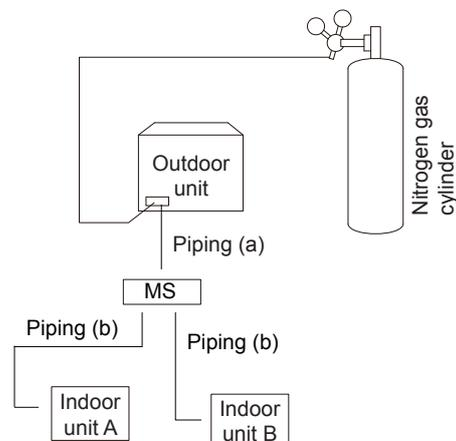

Fig. 5-16
b) Braze the refrigerant piping and branch joints between outdoor unit(s) and LV-MS (piping (a) in Fig. 5-16), but not connect piping (a) to LV-MS.
d) Braze the refrigerant piping and branch joints between LV-MS and indoor units (piping (b) in Figure 5.16), but not connect piping (b) to LV-MS.